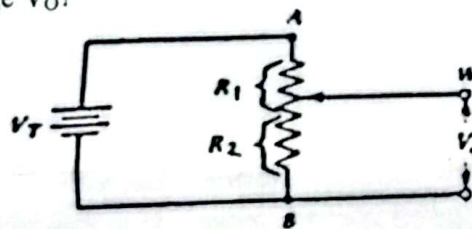

Figure 1.
- 5(a) I. A displacement transducer with a shaft stroke of 3 inch is applied to the circuit of Figure 1. The total resistance of the potentiometer is $5k\Omega$, and the applied voltage $V_T = 5V$. When the wiper is 0.9 inch from B, what is the value of the output voltage V_O ? CO3 E 5